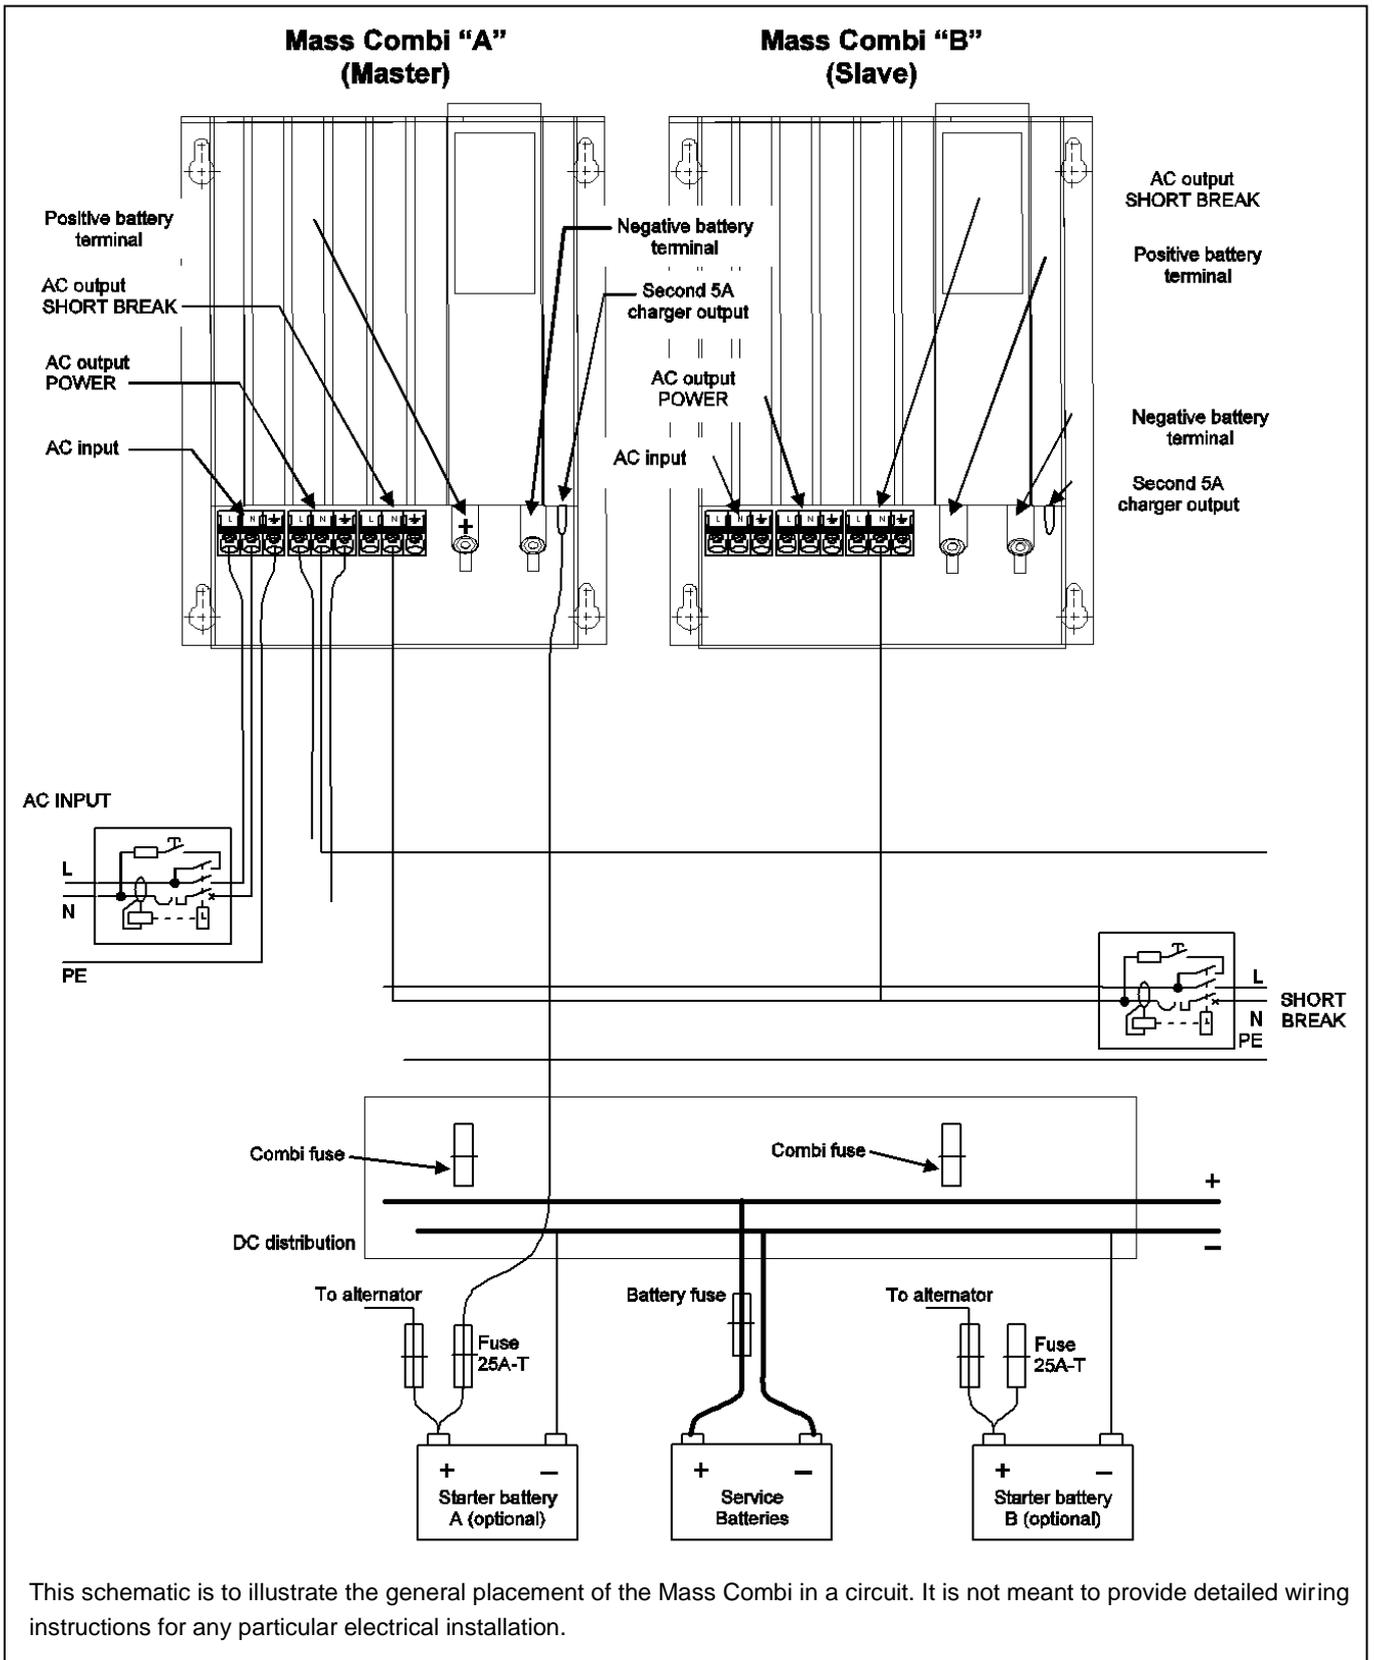
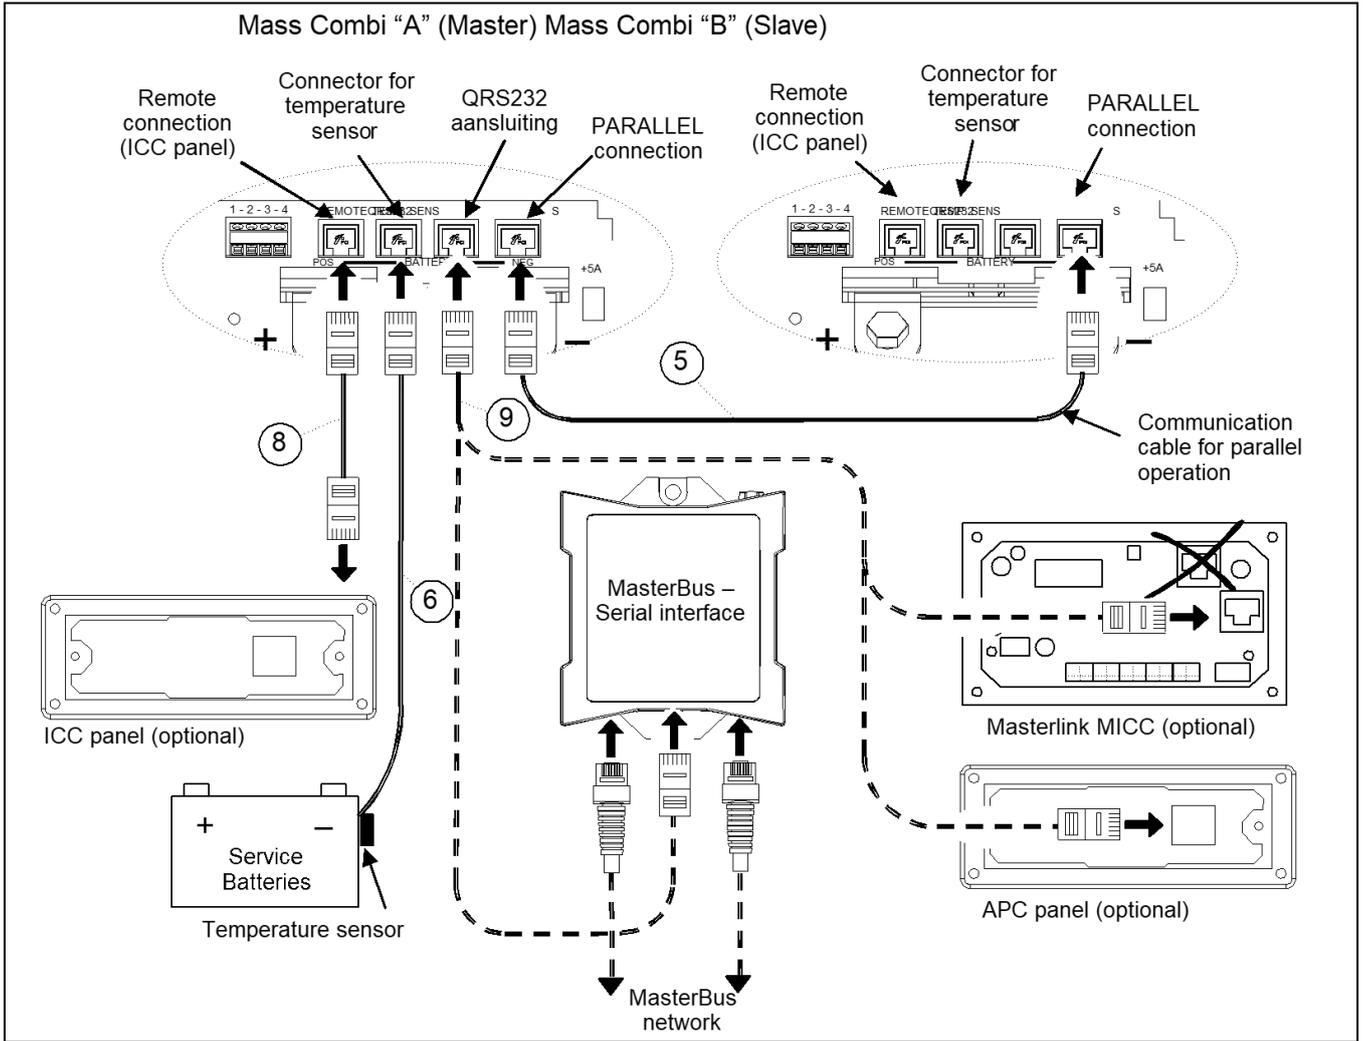

Figure 28: installation drawing for two Mass Combi's (parallel operation). See also figure 29
Figure 29: Connection of remote control panels, battery temperature sensors and communication cable for parallel operation
- 2 See reference ②. Connect the "AC output POWER" of Combi "A" to the power distribution group.
- 3 See reference ③. Connect the "AC output SHORT BREAK" of both Mass Combi "A" and Mass Combi "B" to the SHORT BREAK distribution. Beware that the L, N and PE / GND wiring may not be exchanged.
- 4 See reference ④. Run the DC-cables between the DC-distribution and each Mass Combi. Connect the red cable to the plus (+) connection, the black cable to the minus (-) connection. Do not install the DC-fuses of the DC-distribution before the entire installation is completed (see chapter 7).
- 5 See figure 29, reference ⑤. Run the modular 8-pole communication cable between Mass Combi "A" and Mass Combi "B". Connect this cable to the PARALLEL connectors.
- 6 See reference ⑥. Attach the temperature sensor to the battery and run the cable into Mass Combi "A" and connect the RJ12 connector to the "TEMP.SENS"-connector (Data Bus Connections)
- 7 Option: if you want to make use of the possibility to give a maintenance charge to a small battery set (like a starter battery), run a 6mm² /AWG10 red cable with a fuse holder between the positive pole of the starter battery and Mass Combi. See figure 28, reference ⑦. Fix the cable with an insulated faston to the "+5A"-connection. Integrate a 25 Amps-T fuse in this wire. The negative pole of this battery must be connected to the negative pole of the main battery.
- 8 See figure 29, reference ⑧. If you want to install the ICC remote control panel, run the communication cable between Mass Combi A and the panel. Connect the RJ12 connector to the "REMOTE"-input (Data Bus Connections) of Mass Combi A.